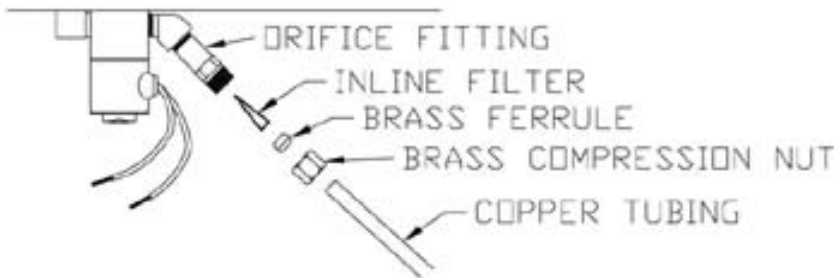

FIGURE 16: Waterline Connection for Model 55
1) For **Model 55**, connect the waterline as shown in Figure 16, below.